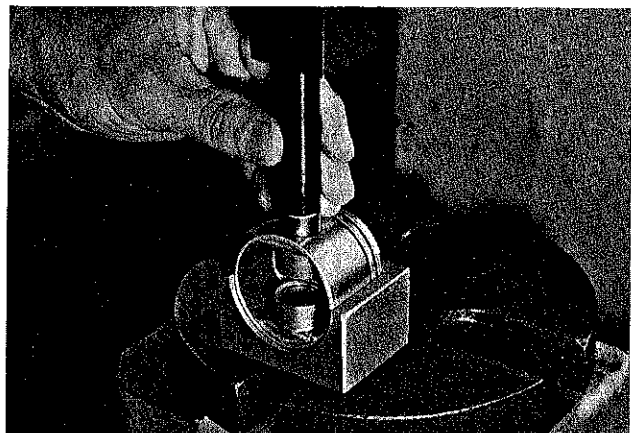

Figure X-22. Pressing the open-end bearing into the piston.
4. Press the open end bearing into the other side of the piston until the inside edge of the bearing is flush with the inside edge of the boss. (Figures X-22 and X-23)